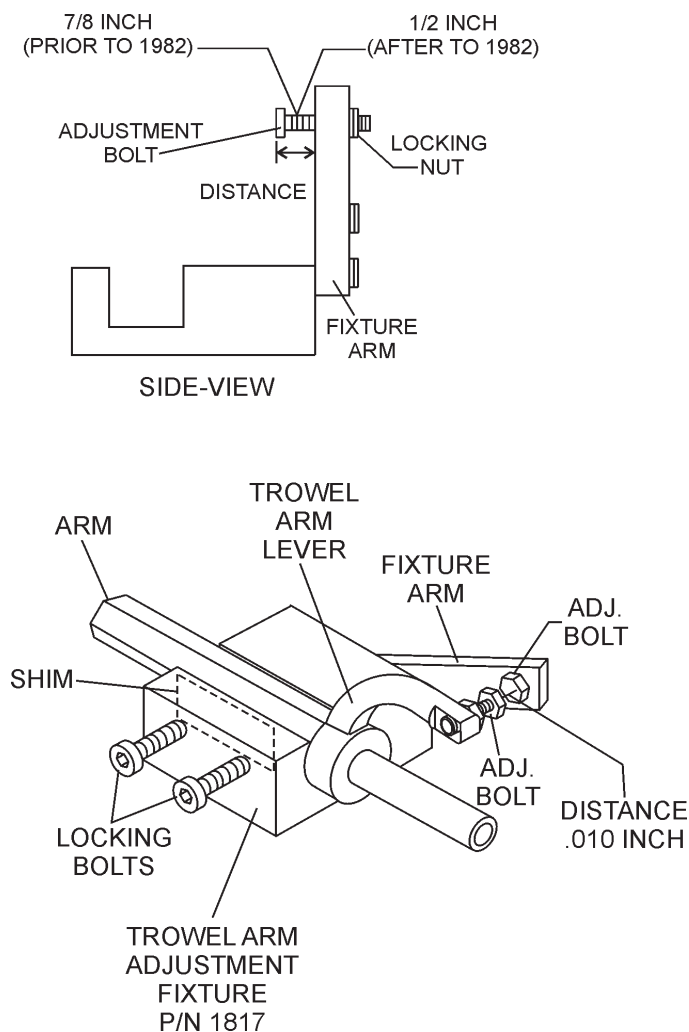

Figure 46. Trowel Arm Adjustment Tool
Shown in (Figure 46) is the adjustment fixture with a trowel arm inserted. As each trowel arm is locked into the fixture, the arm bolt is adjusted to where it contacts a stop on the fixture. This will consistently adjust all of the trowel arms, keeping the finisher as flat and evenly pitched as possible.
2. Trowels manufactured prior to June of 1982 require that the distance from the end of the adjusting bolt and the fixture arm must be 7/8" (Figure 46). Conversely, trowels manufactured after June of 1982 require that the distance from the end of the adjusting bolt and the fixture arm must be 1/2".
3. Un-screw the locking bolts on the adjustment tool, and place the trowel arm into the adjustment fixture channel as shown in (Figure 46). A *thin shim* may be required to cover the blade holes on the trowel arm. Make sure to align the trowel adjustment bolt with the fixture adjustment bolt.